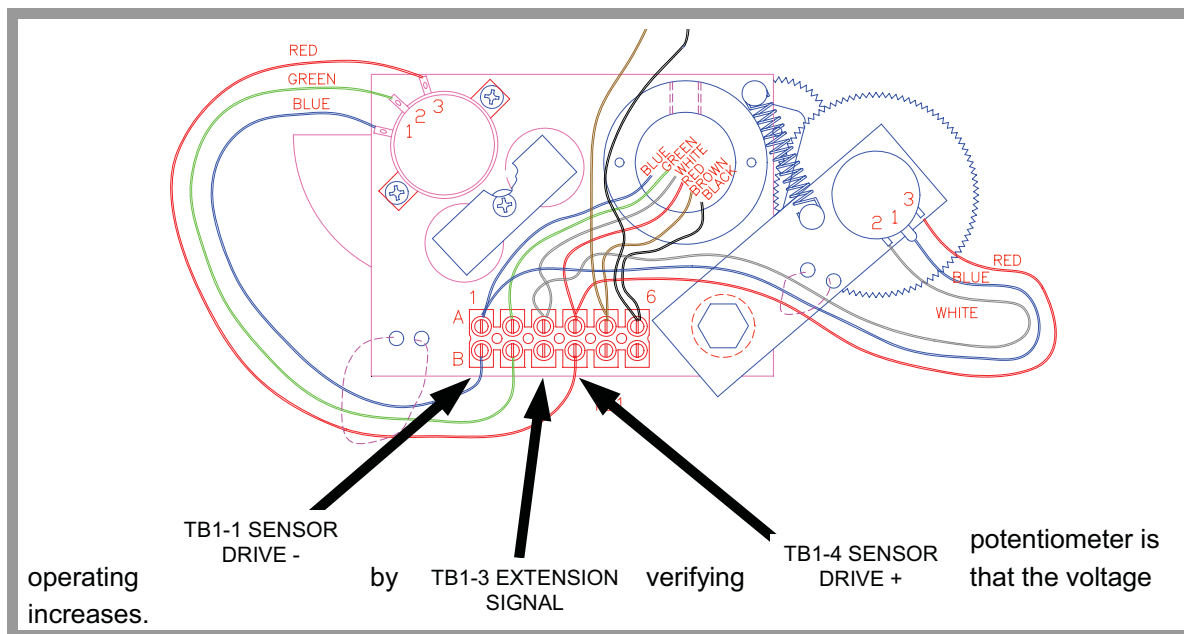

FIGURE 6.3 SENSOR BASEPLATE ASSEMBLY WIRING
4. Measure the voltage between TB1-3 and TB1-1 (Figure. 6.3).